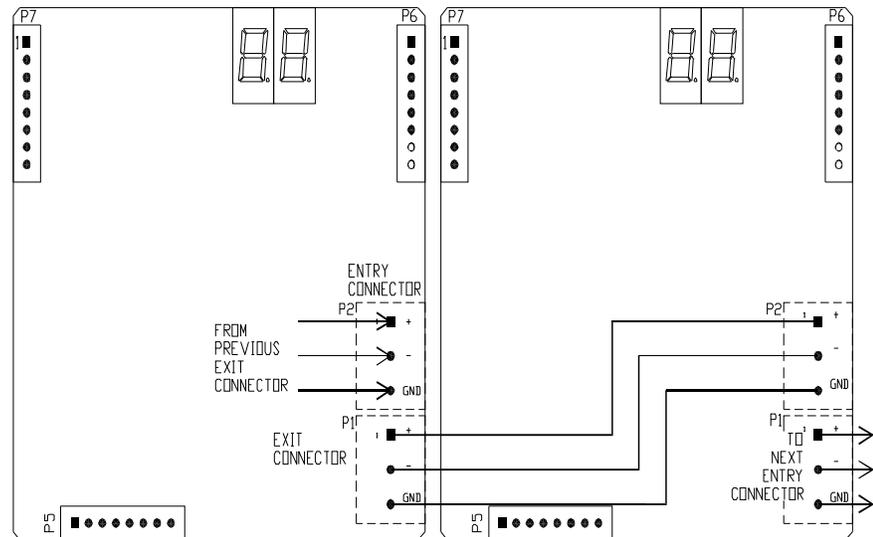

figure 4.23 Beginning connections in an SBC chain
1. Use P1 and P2. (They are two of three blue connectors on the back side of the logic board.) P1 is the exit connector and P2 is the entry connector. See figure 4.23.
3. Use figure 4.23 as a guide for linking all SBCs, except the first and final SBCs in the chain.